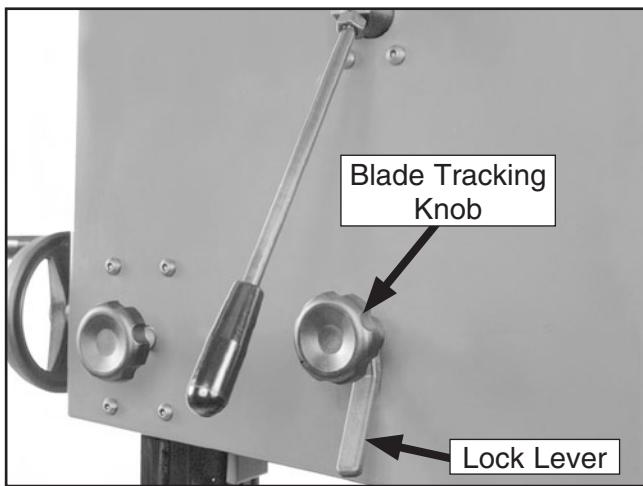

Figure 18. Blade tracking controls.
5. Loosen the lock lever (Figure 18) so that the blade tracking knob can rotate.